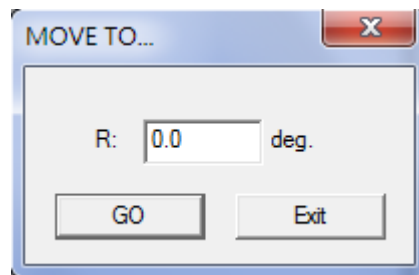

Fig. 6.2.02
1. Click “MOVE TO...” button and input the degree value in the dialog box like Fig.6.2.02 and click “GO,” the rotary axis will rotate to that specific angle. The rotating speed can be adjusted from “Speed” parameter.